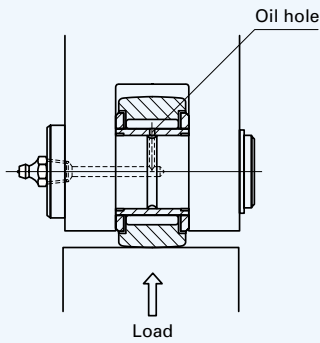

Fig. 2 Position of oil hole and load direction
- ② When mounting Roller Followers, pay special attention to avoid locating the oil hole of the inner ring within the loading zone. This may lead to a short bearing life. (See Fig. 2.)
- ③ When mounting Sealed Type Separable Roller Followers, do not cause the side plates to come off. If they come off, set them again in place taking care to avoid damaging the seal lips.